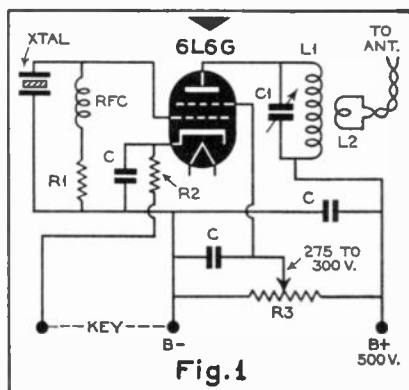

Fig. 1
A.W.R. has found the most reliable of the simple 6L6G circuits to be that shown in Fig. 1. The data on C1 and L1 for the different bands can be secured from any of the handbooks. Coil L2 will be from $\frac{1}{2}$ to 2 turns, depending upon the diameter of L1 and the proximity. The other values are given in the